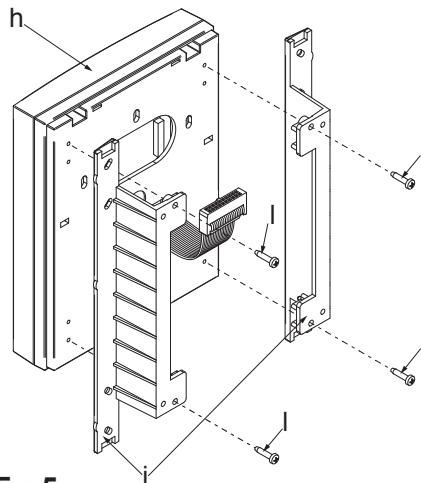
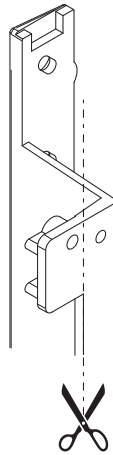
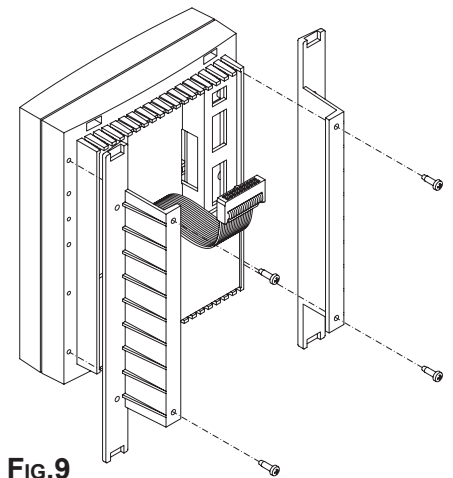

FIG.5
FIG.8
FIG.9
- *Arrange the videophone "h" fixing to it the two brackets "i" using the 4 screws "l" as shown in figure 5. If the videomonitor is not a slim line model, first arrange the brackets by cutting their upper and lower sides as shown in figure 8 then, as described above, fix the brackets to the videomonitor as shown in figure 9;*